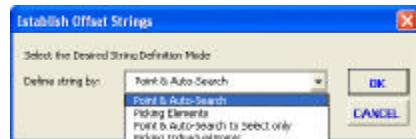

Figure 16
2. Pick at an existing line, polyline or curve element to define the start of the base string, also referred to as the seed element. The choice list message box of Figure 16 will appear.